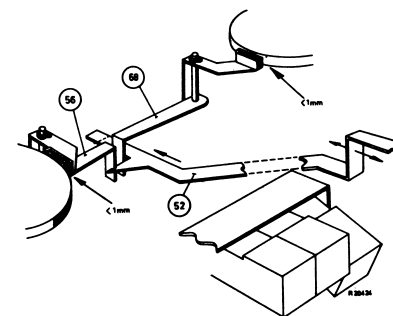

Fig 13
- When the winding key is depressed, reel bracket 52 moves backwards. The cam on the reel disc lifts both brakes 56 and 68 from the reel discs (see fig. 13).